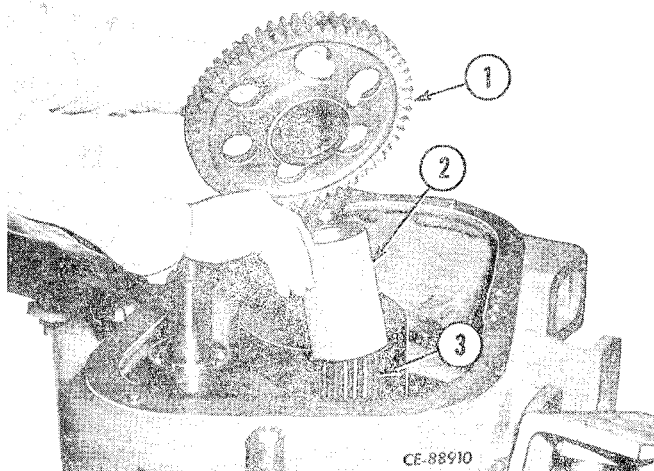

Figure 4-72
Install the spacer (2, Fig. 4-72) and the forward driven gear (1) on the countershaft (3). The extended hub side of the gear should be toward the spacer.